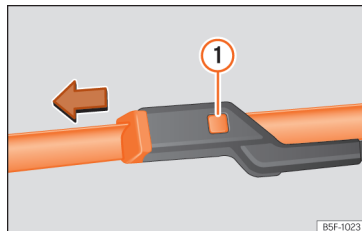

Fig. 41 Changing the windscreen wiper blades
- Press and hold release button » Fig. 41 ① and pull gently on the wiper blade in the direction of the arrow.